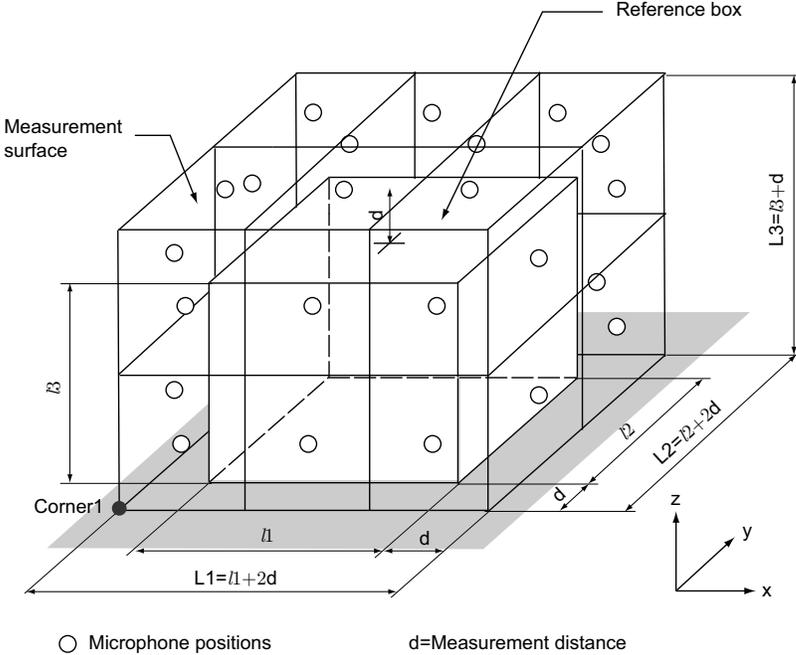

Figure 7.48 ISO9614-1 - Parallelepiped measurement surface with probe positions.
**Parallelepiped** Figure 7.48 shows a parallelepiped measurement surface whose sides are parallel to those of the surface of the source. Click on the **Suggest** button to auto fill the measurement surface variables in agreement with the standard. Verify the input you have entered by clicking on the **Check** button. *Coustyx* checks to see if the input variables satisfy the standard requirements. If the standard requirements are not met, a message window pops up to help you make appropriate corrections.
**X-Axis** Specify the orientation of the X-axis here. See Figure 7.48 for definition.
**Y-Axis** Specify the orientation of the Y-axis here. See Figure 7.48 for definition.
**Corner1** Specify Corner1 of the parallelepiped surface here. See Figure 7.48 for definition. The parallelepiped is constructed using Corner1 as the starting point and  $L1$ ,  $L2$ ,  $L3$  as its dimensions along X, Y, Z-axis respectively.
**L1** Length of the parallelepiped in X-direction (Figure 7.48). Specify the value of  $L1$  such that it satisfies the definition,  $L1 = l1 + 2d$ , where  $l1$  is the reference box dimension in X-direction, and  $d$  is the measurement distance. The recommended value for  $d = 1 m$ .
**L2** Length of the parallelepiped in Y-direction (Figure 7.48). Specify the value of  $L2$  such that it satisfies the definition,  $L2 = l2 + 2d$ , where  $l2$  is the reference box dimension in Y-direction, and  $d$  is the measurement distance. The recommended value for  $d = 1 m$ .
**L3** Length of the parallelepiped in Z-direction (Figure 7.48). Specify the value of  $L3$  such that it satisfies the definition,  $L3 = l3 + d$ , where  $l3$  is the reference box dimension in Z-direction, and  $d$  is the measurement distance. The recommended value for  $d = 1 m$ .
**N1** Number of subdivisions in X-direction (Figure 7.48). Select the values of  $N1$ ,  $N2$ ,  $N3$  such that there is a minimum of one probe position per square metre, and a minimum of 10 positions distributed as uniformly as possible (according to segment area) over the measurement surface.
**N2** Number of subdivisions in Y-direction (Figure 7.48). Select the values of  $N1$ ,  $N2$ ,  $N3$  such that there is a minimum of one probe position per square metre, and a minimum of 10 positions distributed as uniformly as possible (according to segment area) over the measurement surface.
**N3** Number of subdivisions in Z-direction (Figure 7.48). Select the values of  $N1$ ,  $N2$ ,  $N3$  such that there is a minimum of one probe position per square metre, and a minimum of 10 positions distributed as uniformly as possible (according to segment area) over the measurement surface.